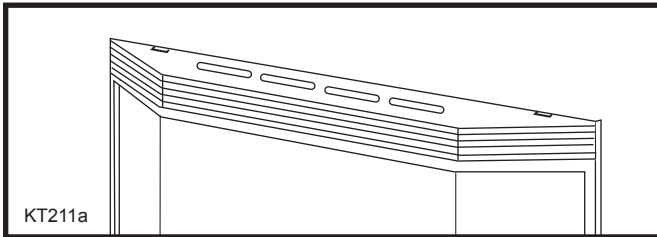

Fig. 35 Engage the slots in the upper grille top louvre with the upper tabs of the hanging brackets.
6. Install top louvre by engaging the oblong holes with the upper tabs of the hanging brackets. (Fig. 35)